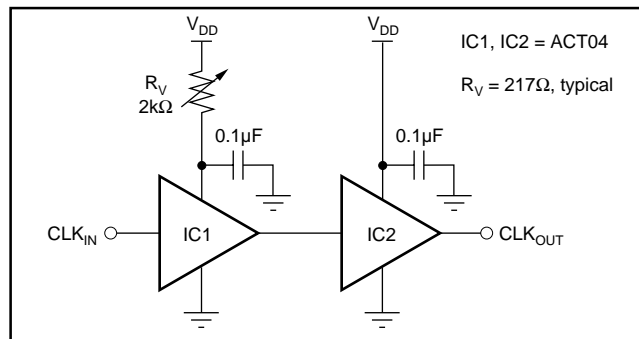

FIGURE 4. Clock Skew Circuit.
- For most applications, the clock duty should be set to 50%. However, for applications requiring no missing codes, a slight skew in the duty cycle will improve DNL performance for conversion rates > 35MHz and input frequencies < 2MHz (see Timing Diagram) in the SO package. For the best performance in the SSOP package, the clock should be skewed under all input frequencies with conversion rates > 35MHz. A possible method for skewing the 50% duty cycle source is shown in Figure 4.